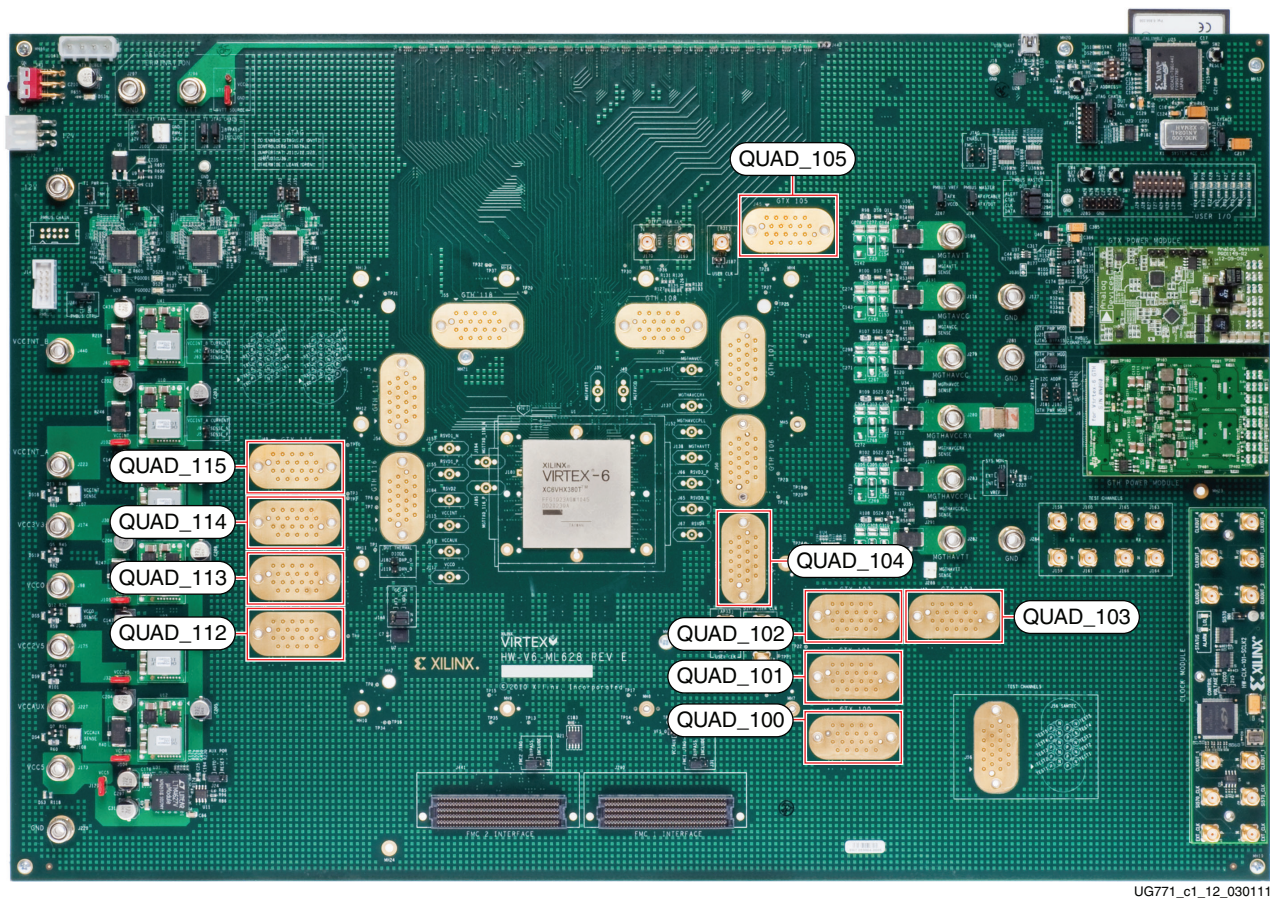

Figure 1-13: GTX Transceiver and Reference Clock SMA Locations
The ML628 board provides access to all GTX transceiver and reference clock pins on the FPGA as shown in Figure 1-13. The GTX transceivers are grouped into six sets of four RX-TX “lanes.” Four lanes are referred to as a “Quad.”
**Note:** Figure 1-13 is for reference only and might not reflect the current revision of the board.